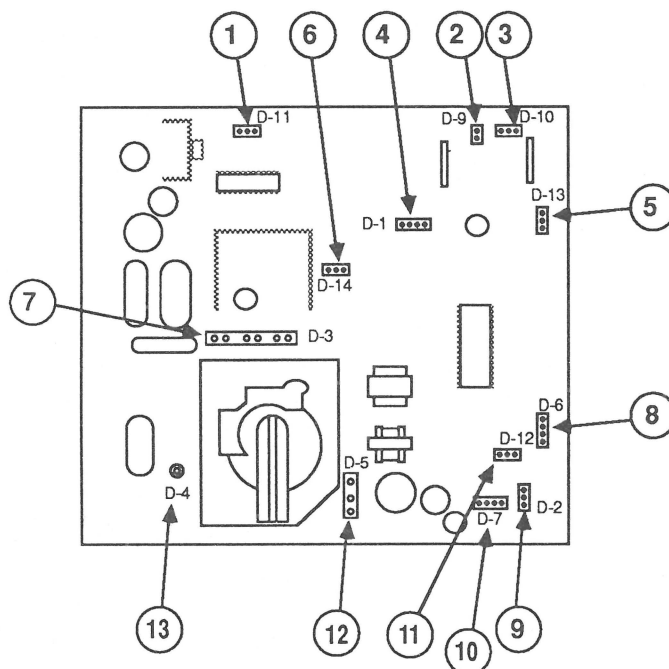

FIGURE 17
2. Reconnect to main logic board "D" the connectors listed in Table 5 and shown in Figure 17.